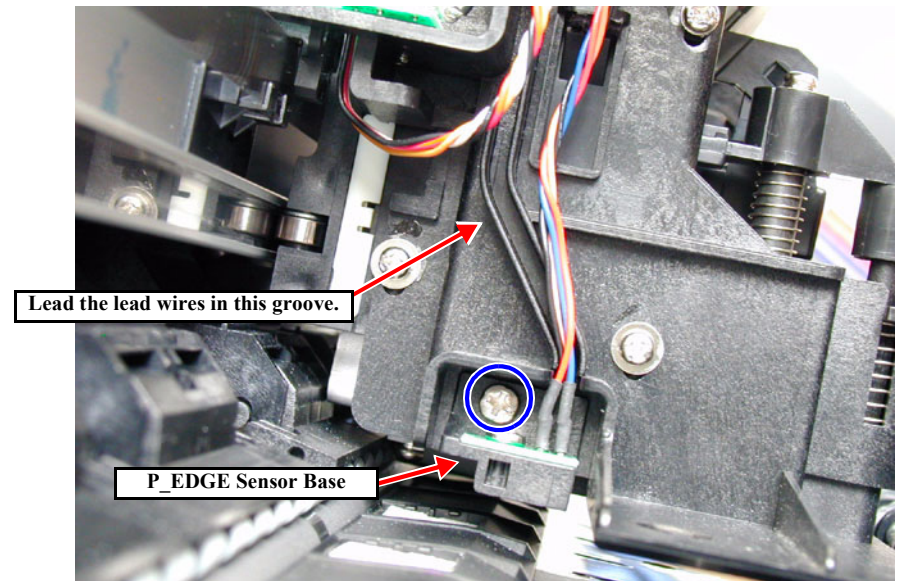

Figure 4-40. Removing the P_EDGE Sensor ASSY 2/2
8. Remove the one screw (M3×6) securing the EDGE Sensor Base ASSY and remove the EDGE Sensor Base ASSY. (See Figure 4-40)
(See Figure 4-40)